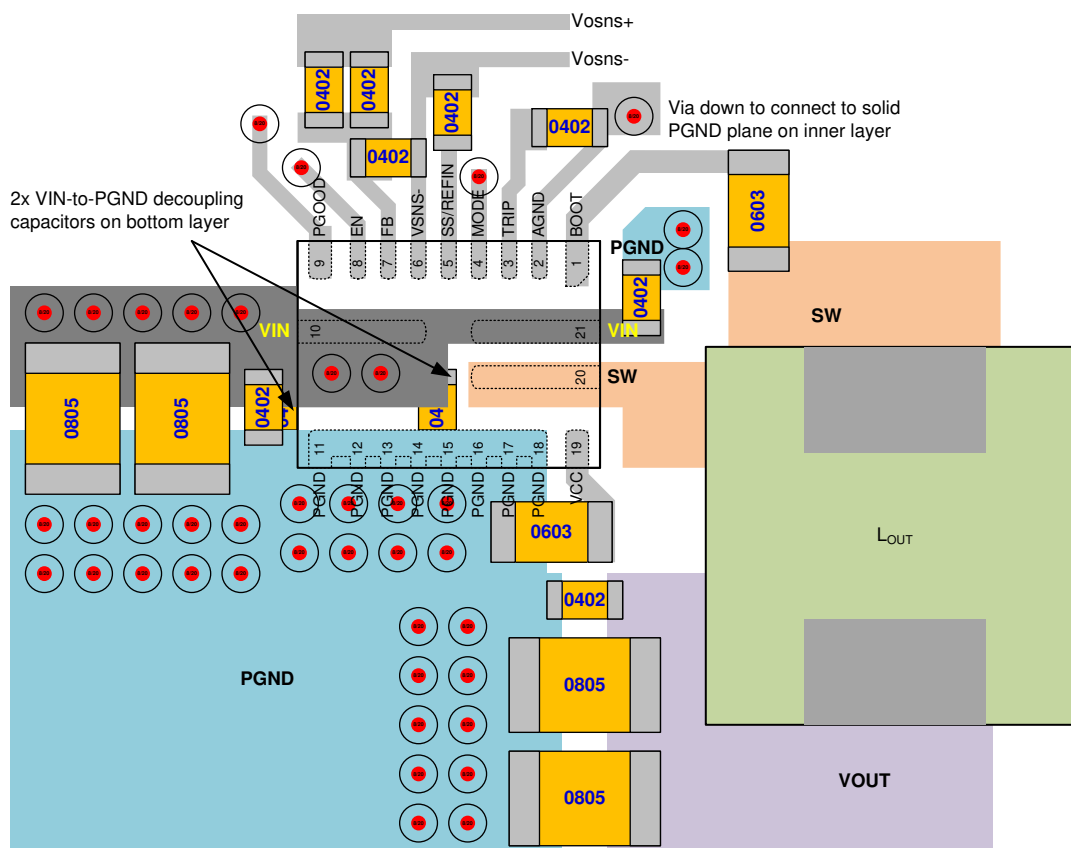

Figure 55. Layout Recommendation
- See Figure 55 for the layout recommendation.